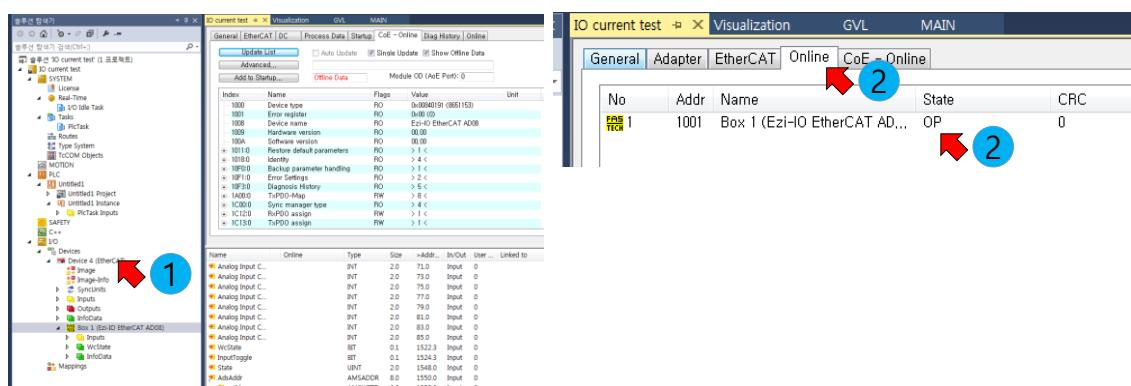

Figure 8-3. Checking EtherCAT Communication State
① Check the EtherCAT network is in 'OP' state as shown in **Figure 8-3**.
② Check the EtherCAT Communication State LED (RUN) turns Green.